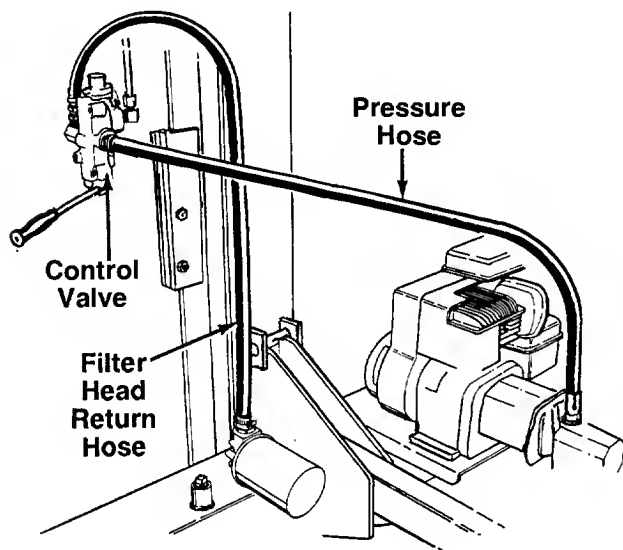

FIGURE 11.
2. Attach the end of the hose to the fitting on top of the filter head. See figure 11. Place the hose clamp at the base of the fitting, and tighten securely.
The pressure hose is attached to the top of the pump. Route the hose as shown in figure 11. Secure the pressure hose to the bottom of the control valve, using an adjustable wrench.